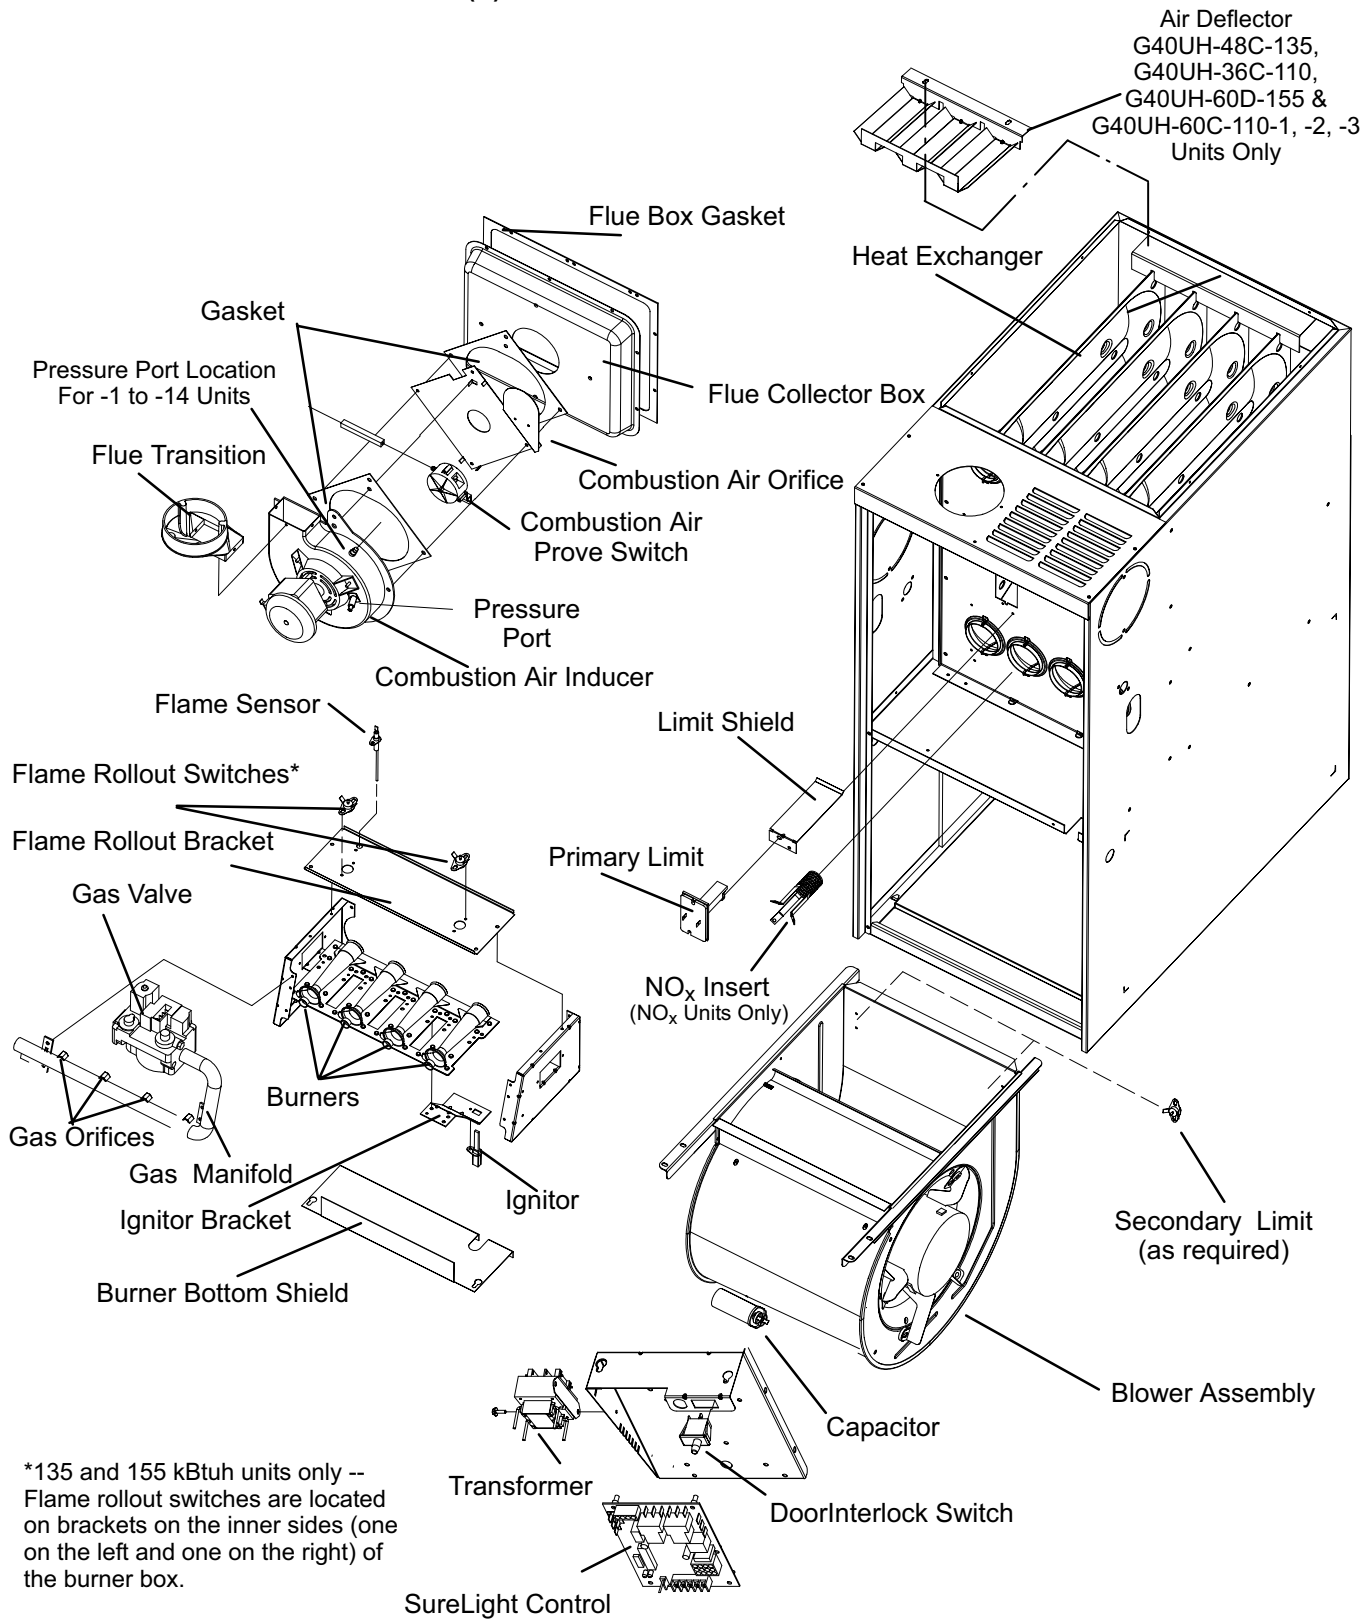
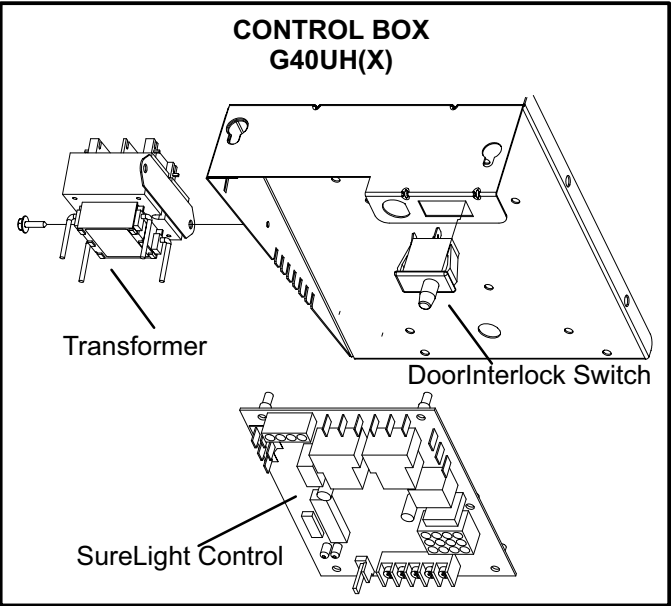

FIGURE 1
FIGURE 4
G40UH(X) unit components are shown in figures 1, 2, 3 and 4. The gas valve, combustion air inducer and burners can be accessed by removing the burner access panel. Electrical components are in the control box (figure 4) found in the blower section.